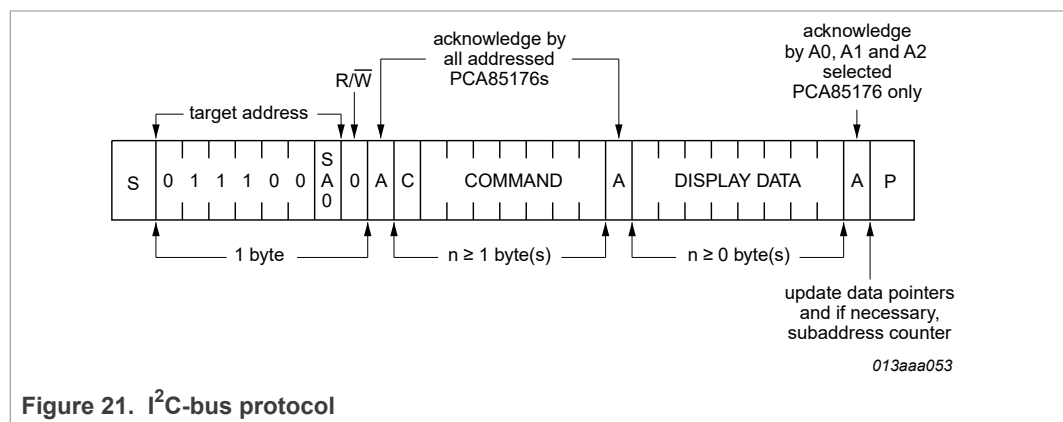

Figure 21. I²C-bus protocol
The I²C-bus protocol is shown in Figure 21. The sequence is initiated with a START condition (S) from the I²C-bus controller which is followed by one of the two possible PCA85176 target addresses available. All PCA85176 whose SA0 inputs correspond to bit 0 of the target address respond by asserting an acknowledge in parallel. This I²C-bus transfer is ignored by all PCA85176 whose SA0 inputs are set to the alternative level.